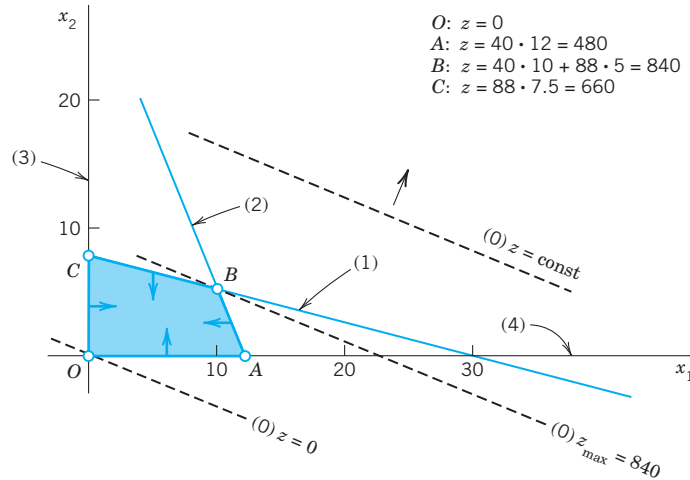

Fig. 474. Linear programming in Example 1
- $$\begin{aligned} (0) \quad & z = 40x_1 + 88x_2 \\ (1) \quad & 2x_1 + 8x_2 \leq 60 \text{ min time on machine } M_1 \\ (2) \quad & 5x_1 + 2x_2 \leq 60 \text{ min time on machine } M_2 \\ (3) \quad & x_1 \geq 0 \\ (4) \quad & x_2 \geq 0. \end{aligned}$$
Figure 474 shows (0)–(4) as follows. Constancy lines
We now have $n = 4$ variables and $m = 2$ (linearly independent) equations, so that two of the four variables, for example, x_1, x_2 , determine the others. Also note that each of the four sides of the quadrangle in Fig. 474 now has an equation of the form $x_i = 0$:
Finally, by a **basic feasible solution** we mean a feasible solution for which at least $n - m$ of the variables x_1, \dots, x_n are zero. For instance, in Example 2 we have $n = 4$, $m = 2$, and the basic feasible solutions are the four vertices O, A, B, C in Fig. 474. Here B is an optimal solution (the only one in this example).
7. **Location of maximum.** Could we find a profit $f(x_1, x_2) = a_1x_1 + a_2x_2$ whose maximum is at an interior point of the quadrangle in Fig. 474? Give reason for your answer.